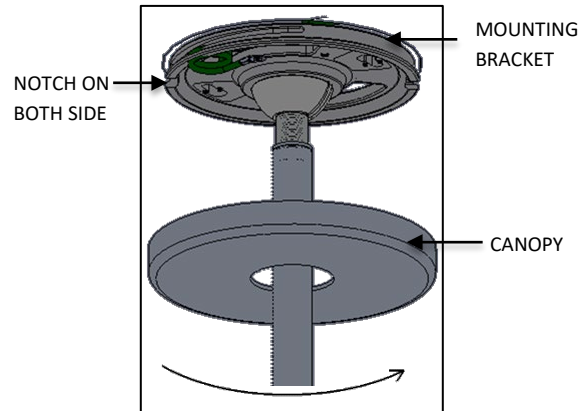

FIG. 19 – CANOPY INSTALLATION
10. Raise the CANOPY and tighten onto the MOUNTING BRACKET by lining the SPRING TABS up the NOTCHES in the MOUNTING BRACKET and rotating 90 degrees clockwise as shown in FIG. 19.